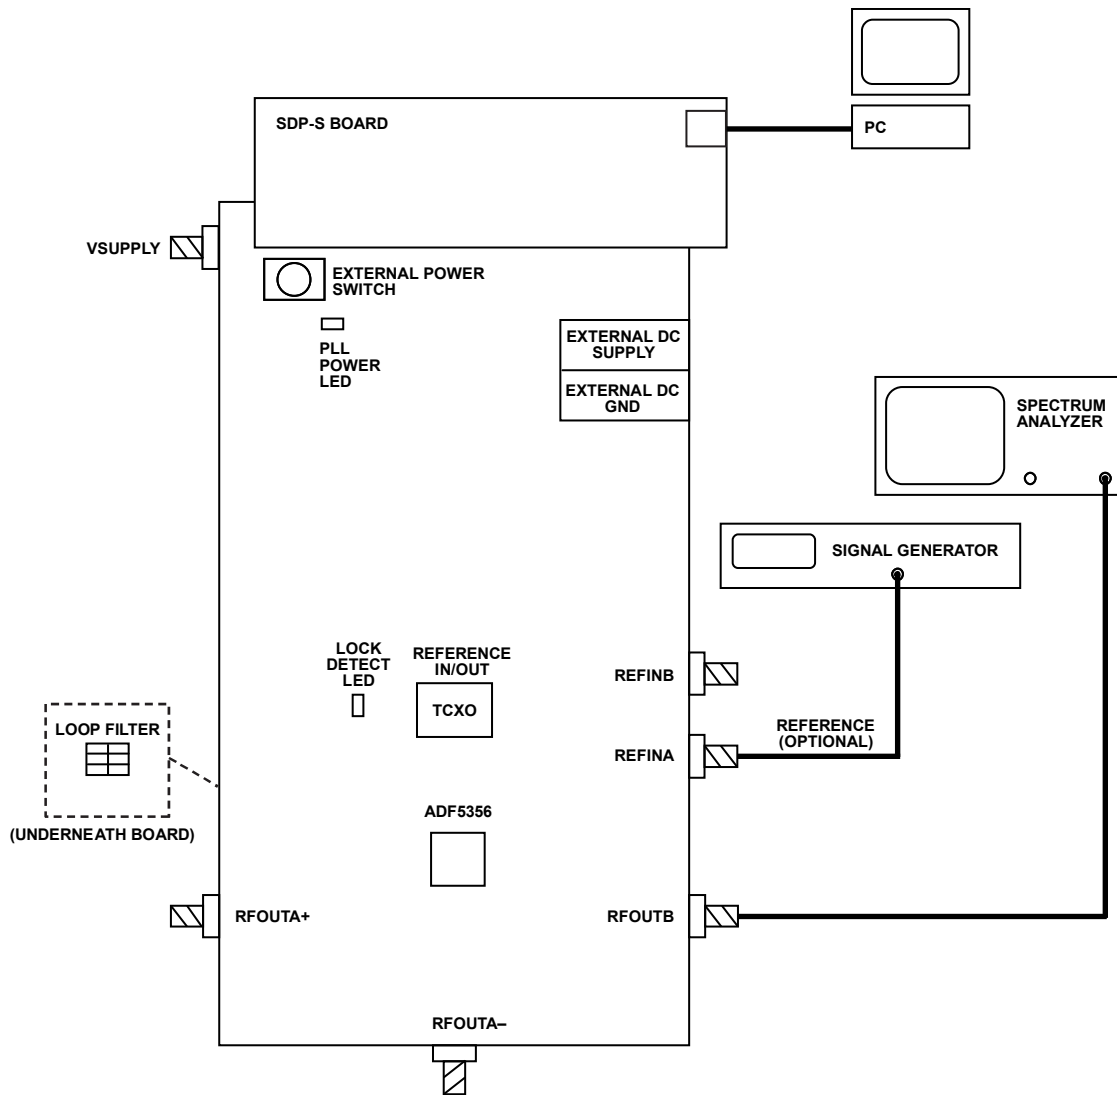

Figure 4. Evaluation Setup Block Diagram
10. Connect the spectrum analyzer to the RFOUTA+ SMA connector. See Figure 4 for a typical evaluation setup.